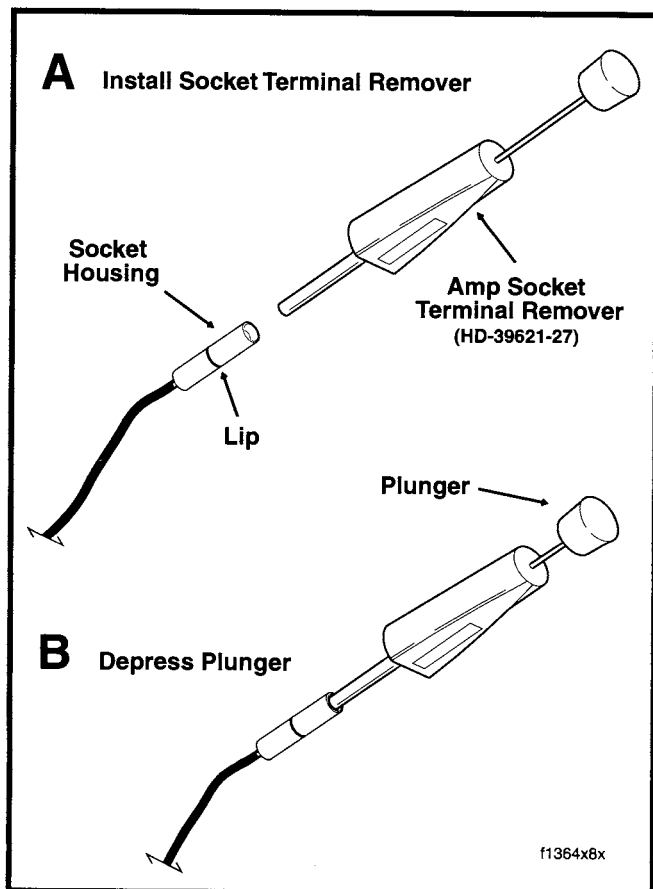

Figure 165. Remove Terminal from Amp Socket Housing
- Fit the barrel of the Amp Socket Terminal Remover (HD-39621-27) over the socket until it bottoms in the housing. See Figure 165.